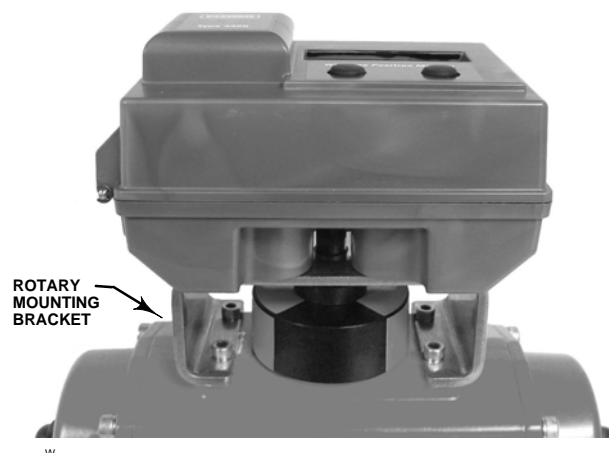

Figure 6. For Rotary Actuators (Typical Mounting Bracket)
The 4320 wireless position monitor can be mounted to any quarter-turn (rotary) actuator, as well as those that comply with the NAMUR guidelines. A mounting bracket and associated hardware are required. Refer to figure 6.
3. Attach the wireless position monitor to the mounting bracket using the 4 mounting bolts, as shown in figure 6.